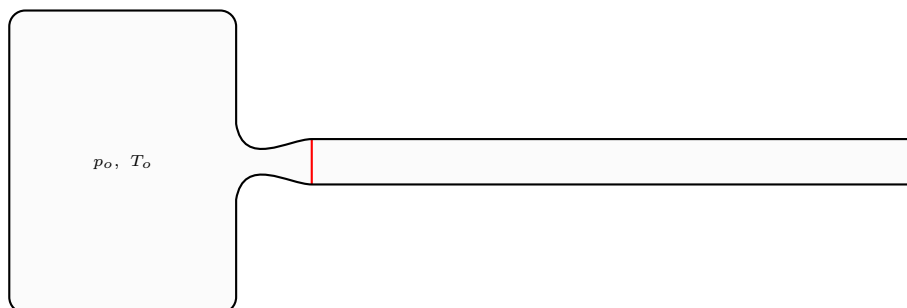

Figure 3: convergent-divergent nozzle with an attached pipe
- assume that a pipe with a friction factor of $f = 0.005$ is attached to the nozzle as shown in Figure 3. What is the maximum possible length of this extension pipe without altering the nozzle flow conditions?